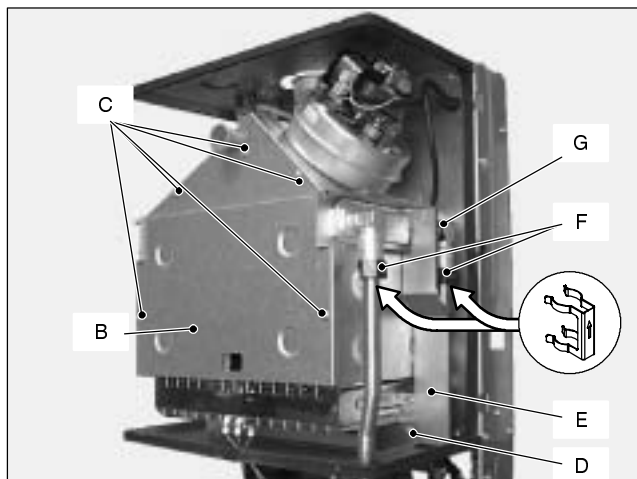

Fig. 11
- 3 Remove the combustion chamber lid **B** by unscrewing the screws **C** (Fig. 11).
- 10 Reassemble the boiler carrying out the removal operations in reverse order. **Fit the clips **F** with the arrow pointing upwards as illustrated in Fig. 11.**